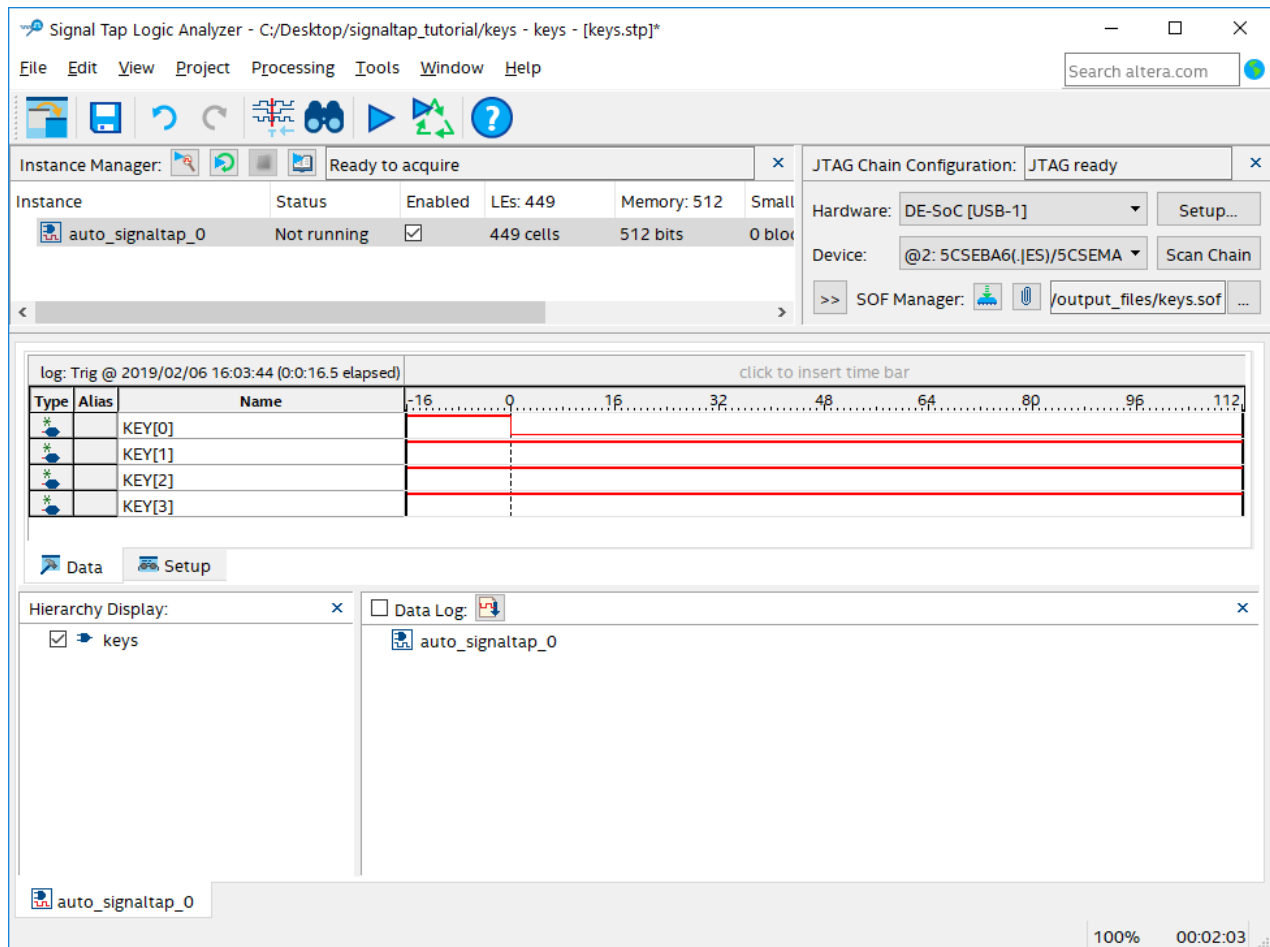

Figure 12. Graphical display of values after trigger condition is met.
- Now, to observe the trigger feature of the Logic Analyzer, click on the **Data** tab of the SignalTap Window and then press and hold Key 0 on the DE-series board. The data window of the SignalTap window should display the image in Figure 12. Note that this window shows the data levels of the 4 nodes before and after the trigger condition was met. As an exercise, unpress Key 0 then click **Run Analysis** again. Hold down any of Keys 1-3, then press Key 0. When Key 0 is pressed, you will see that the values of Keys 1-3 displayed on the SignalTap Logic Analyzer match what is being pressed on the board.